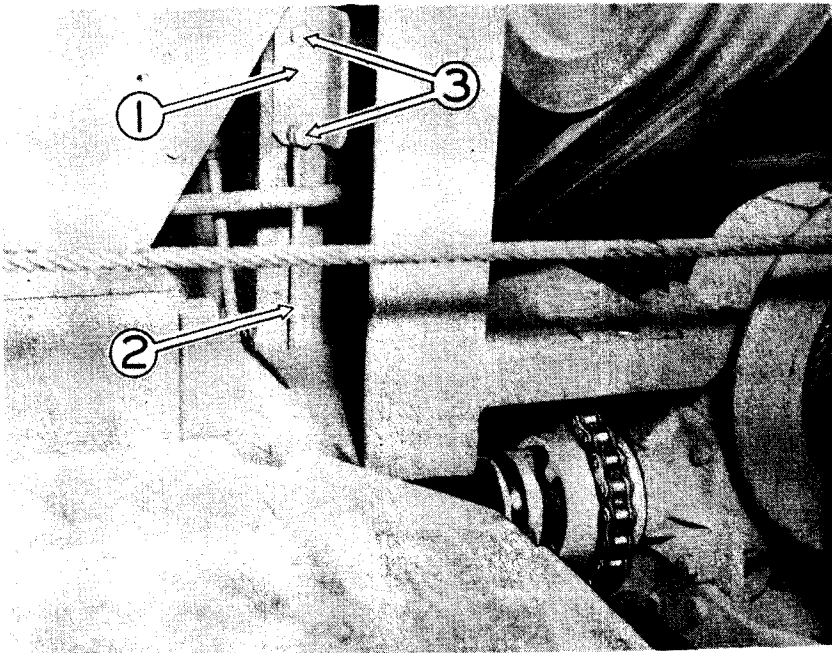

Figure 40 Power Take-Off Belt Idler
The tension of the power take-off belts is adjusted by shifting the position of an idler pulley on its mounting bracket (1), Figure 40. The adjustment bolt (2) in connection with the pulley mounting provides a convenient method of tightening the belts. Loosen cap-screws (3) and set the position of the idler. Allow a slight tension on the belts between the pulley and the two opposite driving sheaves. Reset the nuts on the adjustment bolt and capscrews that hold the idler bracket.